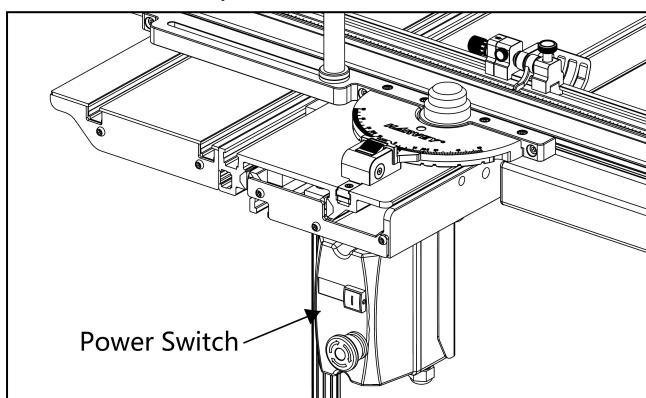

Fig. 18
A. For some models of "Harvey", "Grizzly", "Shop Fox" table saws (see Chapter 1), mount the switch on the bottom of the front end of the sliding table, as shown in **Fig. 18**. Use the original hardware of the power switch.